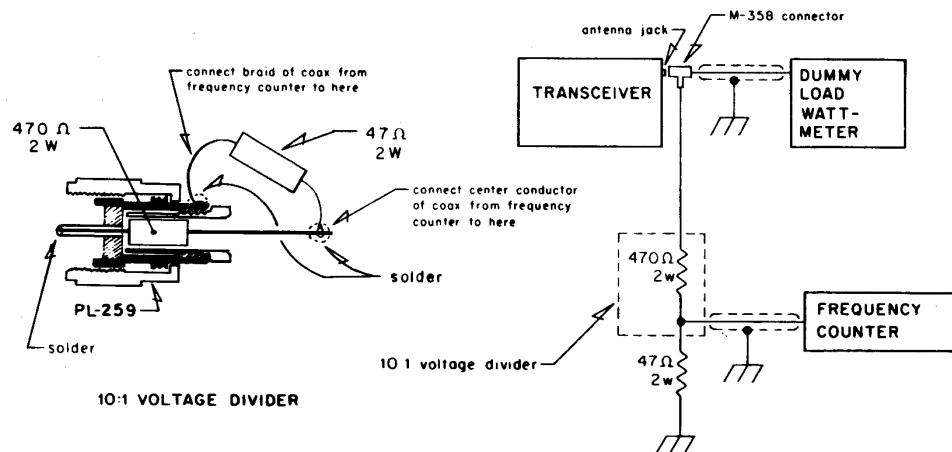

Figure 3-2. Connection of Frequency Counter and Dummy Load.
***NOTE:** See Figure 3-2 for connection of the frequency counter and dummy load.
2. Connect the dummy load and frequency counter to the antenna jack as shown in figure 3-2.